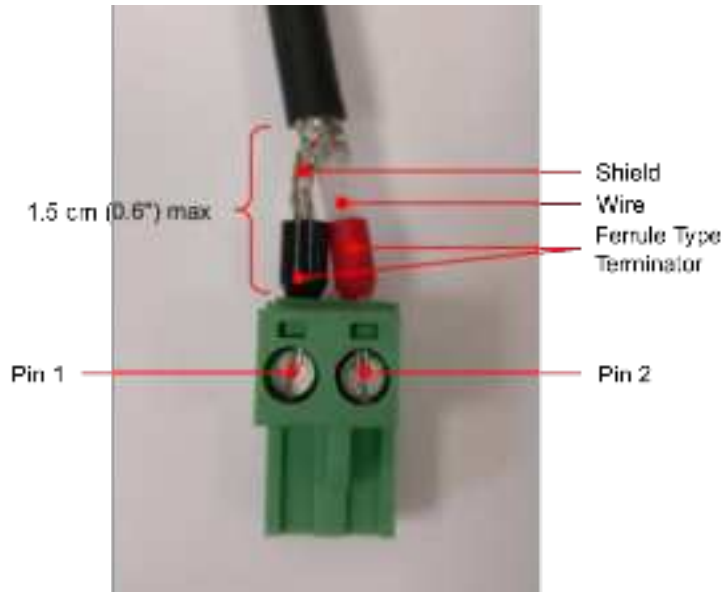
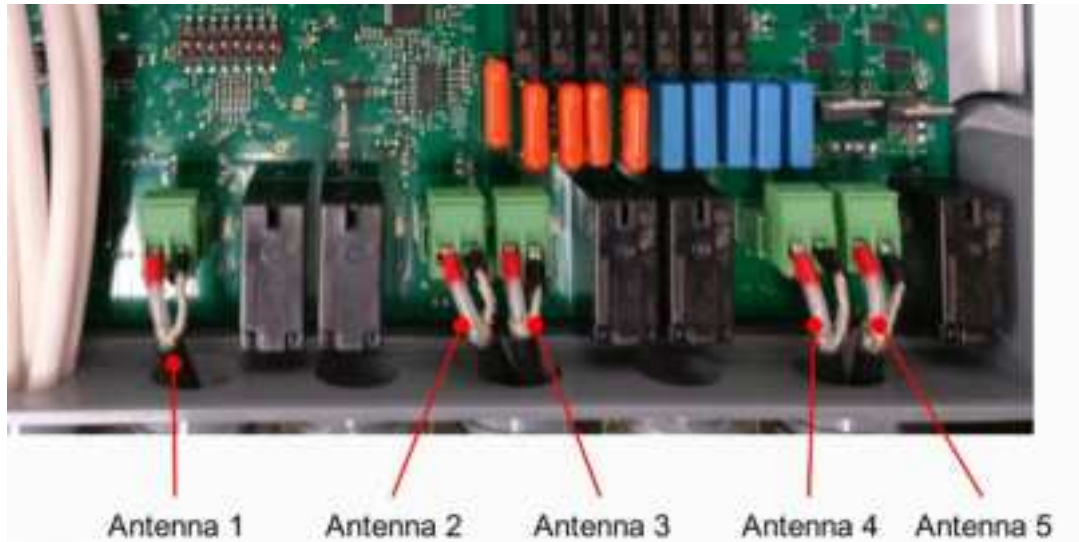

Figure 8 – Antenna Signal Cables Wiring
Figure 9 – Antenna Signal Cable Connectivity
- **Note:** If the cable is cut to size, make sure to use ferrule type terminators as described above. Do not expose the wires more than 1.5 cm (0.6 inches) Figure 8. Bend the ferrule type terminators slightly towards the cable outlet to avoid exposed wires coming into contact with the Display panel's PCB when the lid is closed. Make sure to leave as little cable slack as possible (see Figure 9).